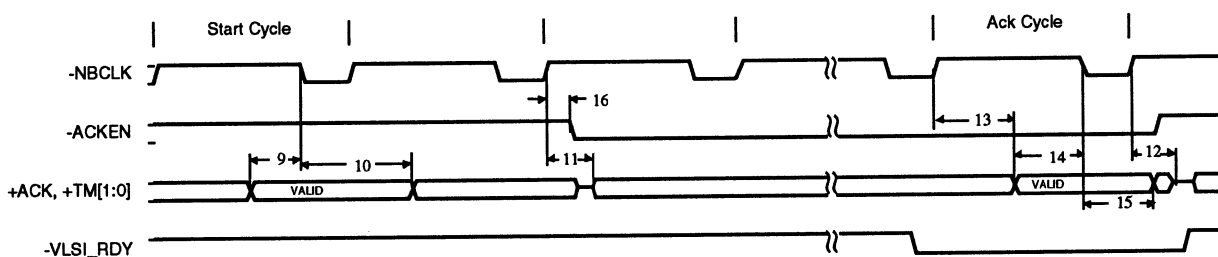
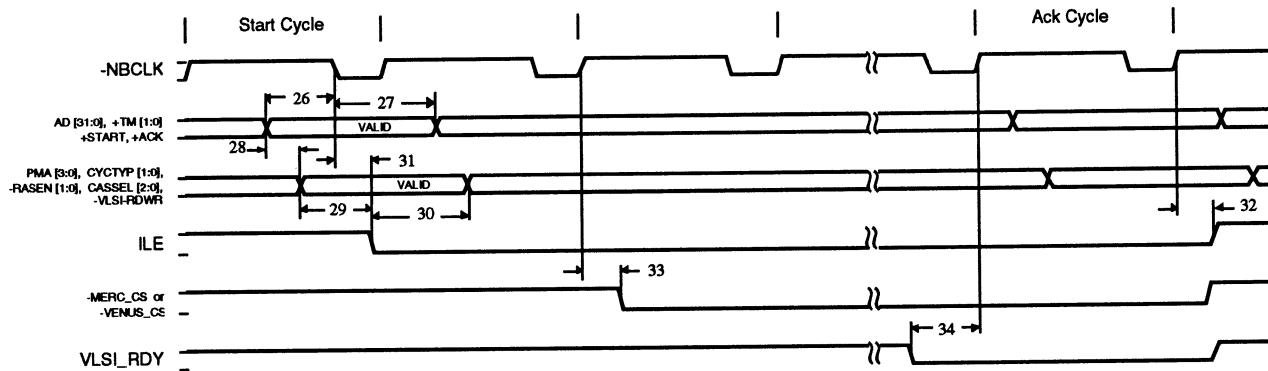
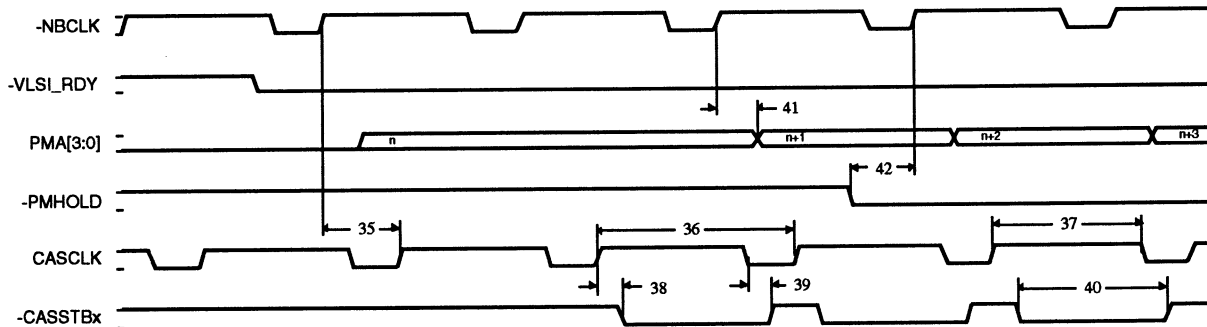

Figure 7-3. +ACK and +TM Timing for Mercury and Venus Cycles
Figure 7-7. Mercury and Venus Interface Timing
Figure 7-8. Page Mode Cycle Timing
1. -VLSI\_RDY is shown in Figure 7-3 for clarity. See Figure 7-7 for timing information.
Table 7-6. Parameters for Figure 7-7
4. The "NB Signals" are shown in Figure 7-7 only to demonstrate the combinational delay from "NB Signals" to "VLSI Signals." The actual setup and hold times of these signals affect the setup and hold times of the "VLSI Signals" relative to ILE.
Table 7-7. Parameters for Figure 7-8
2. VLSI\_RDY is shown in Figure 7-8 for clarity. See Figure 7-7 for timing information.